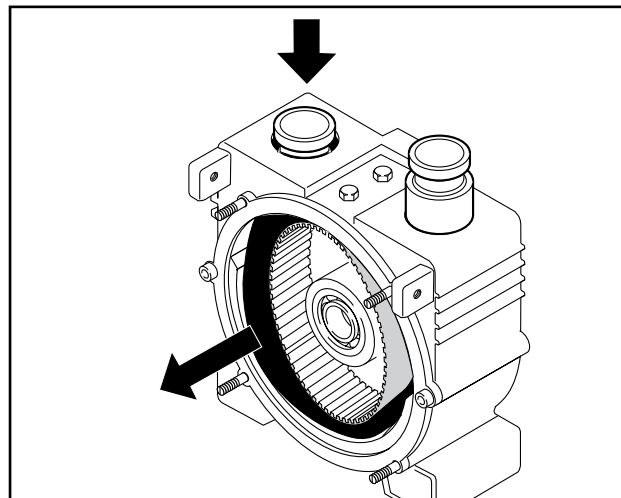
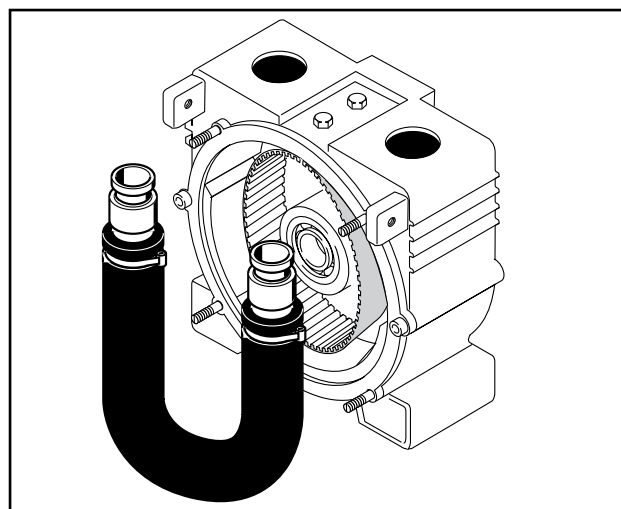

Fig. 18 Disassembly of pumping hose
Fig. 19 Disassembly of pumping hose
8. Pull the pumping hose on the pressure side back into the housing, then pull it back on the suction side and take it out (Fig. 18 and Fig. 19).